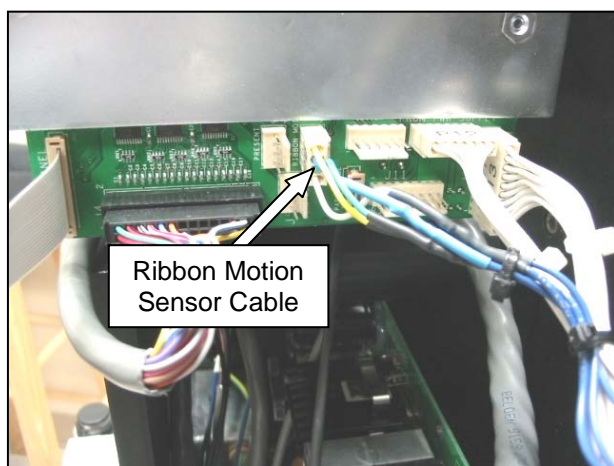

Figure 3-263. Ribbon Motion Sensor Cable Plug
4. Check to ensure the sensor cable is plugged into the rear of the card cage (Figure 3-263). The plug (labeled "P8") should be fully inserted over the pins (labeled "Ribbon Motion") on the board. If the cable is fully engaged on the receptacle on the board, and all other testing has passed, the ribbon sensor is faulty and needs replacement.